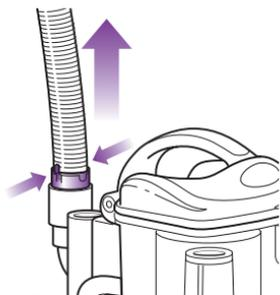

Fig. 28
- Detach the stretch hose from the back of the portable *Lift-Away™* canister by squeezing the tabs together and pulling up. (Fig. 28) Straighten out the hose and look inside for blockages.